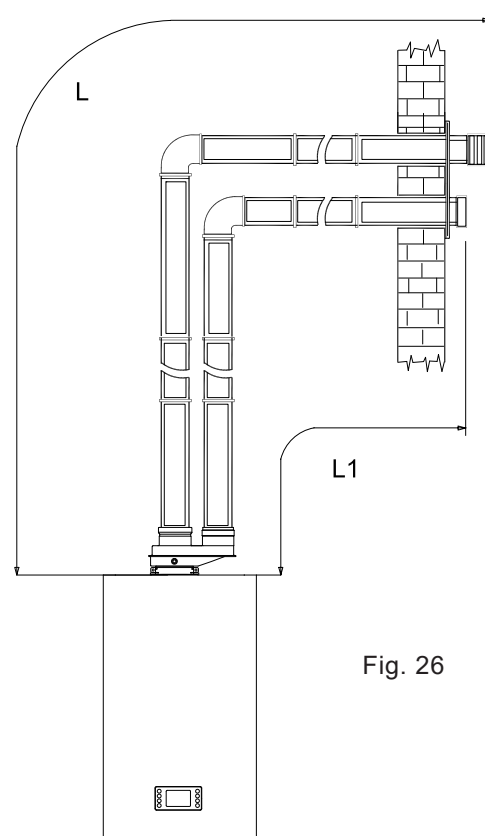

Fig. 26
5.18 Exhaust/suction system with two separate pipes through a single vertical wall (fig. 26).